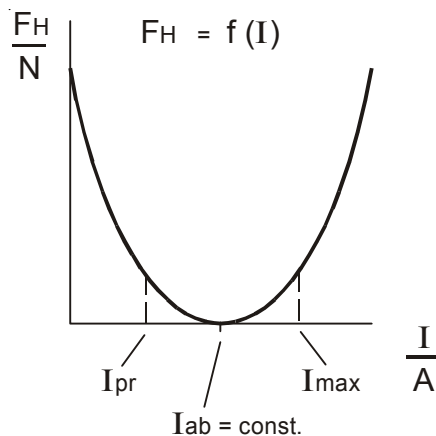

Fig. 3: Force characteristic
- 3) In order to eliminate the influence of the coil resistance (dependent on the temperature rise) on the residual force, we suggest to drive the solenoid with constant current (see also fig. 3).